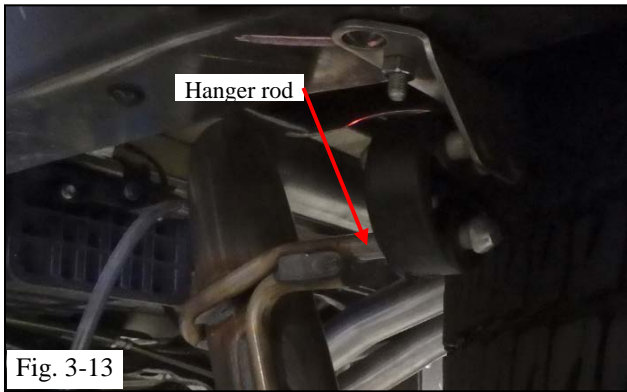

Fig. 3-13
- (o) Attach the hanger rod of the TRD LH tailpipe assembly to the rubber hanger on the vehicle frame (Fig. 3-13).